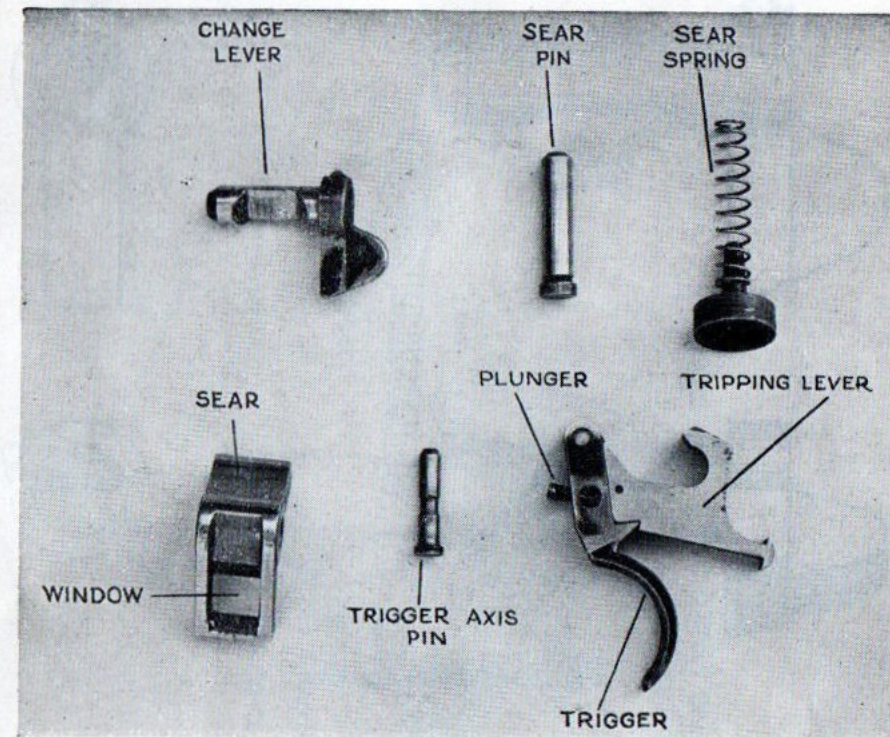

Fig 25.—The trigger group
7. **The trigger group** (see Fig 25):—